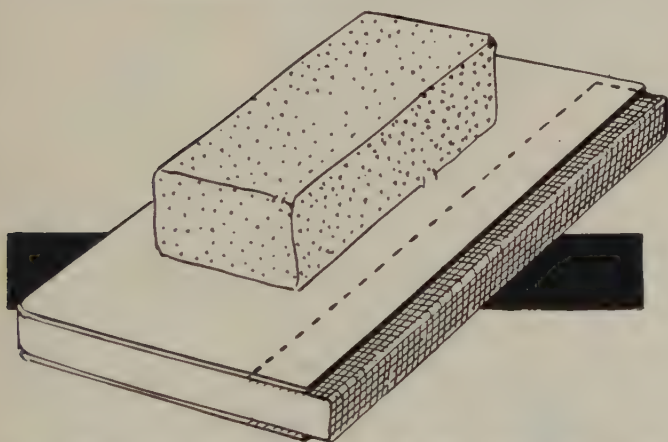

FIG. 234—BOOK LINED UP ON BACK WITH CRASH AND GLUE.
11. Cut a piece of crash 6" long by 2" wide. While book is still in position on edge of table, glue up again, affix crash over back extending evenly on both sides, nearly to head and tail of book. Draw crash snugly over onto linings and slip it under protection boards to hold it in position while drying. Glue *over* crash with a *light* coating of flexible glue. (Fig. 234.)